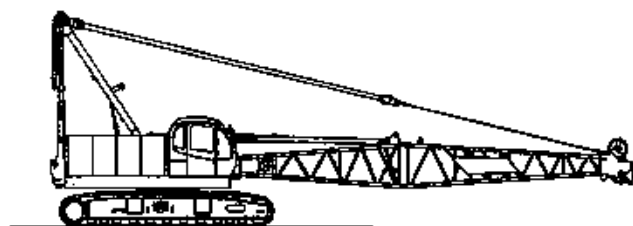

Fig 5-1
- (1) Unload the basic machine from the trailer, with boom base attached.
- (2) Unload the boom tip section from the truck.
- (3) Attached the boom tip section and guy line as in (Fig. 5-1).